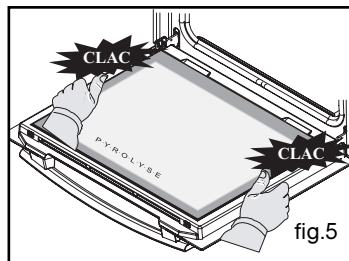

fig.5
- Clip in your last glass sheet by placing the indication "PYROLYSIS" so that it faces you (fig.5).